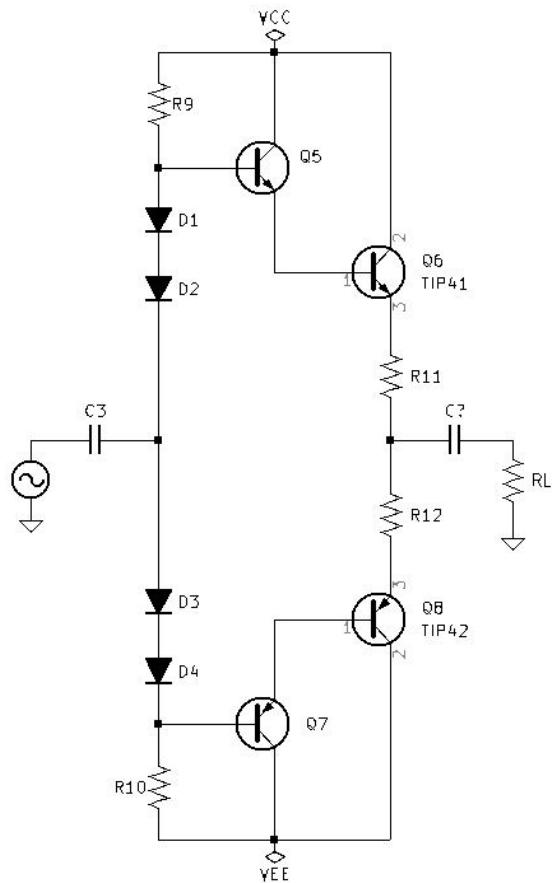

Figure 5.1: Push Pull Amplifier.
1. See Figure 5.1 *Push Pull Amplifier* on page 51.